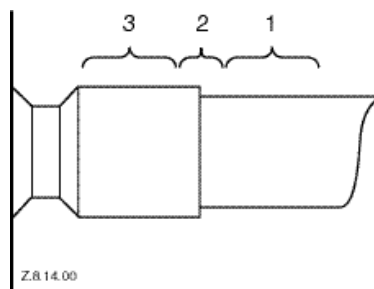

Figure 17. Suction tube brazing
- Recommended brazing-materials: Silfos with minimum 5% silver or silver braze used on other compressors. Due to the different thermal properties of steel and copper, brazing procedures may have to be changed from those commonly used. For brazing of the tubes see Figure 17 and the following procedures.